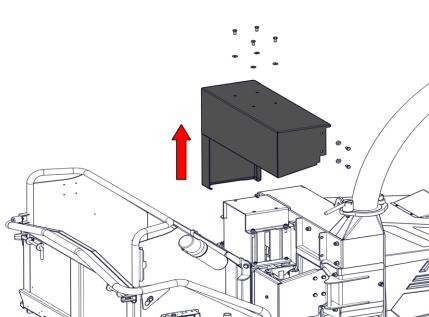

Figure 31 - Removing the Roller Box Guard
2. Unbolt and remove the roller box guard (Figure 31).